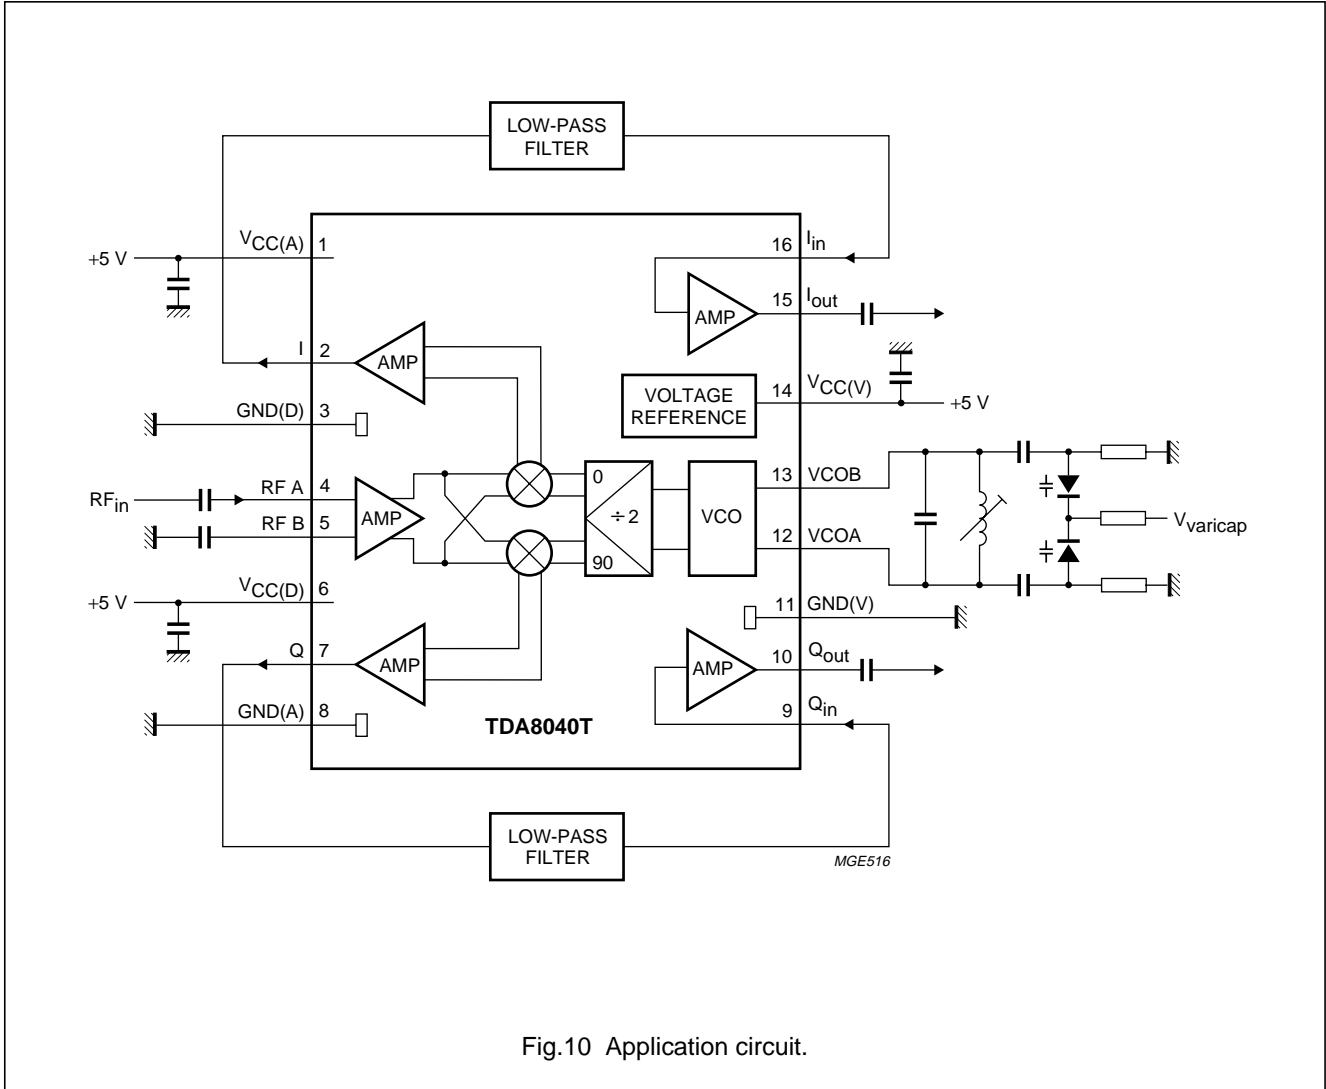

Fig.10 Application circuit.
measured in application circuit of Fig.10; unless otherwise specified.
8. The temperature for the VCO frequency drift is defined for $\Delta T_{\text{amb}} = 25 \text{ }^\circ\text{C}$. It is measured in the application circuit of Fig.10 with the following component values for the tank circuit: